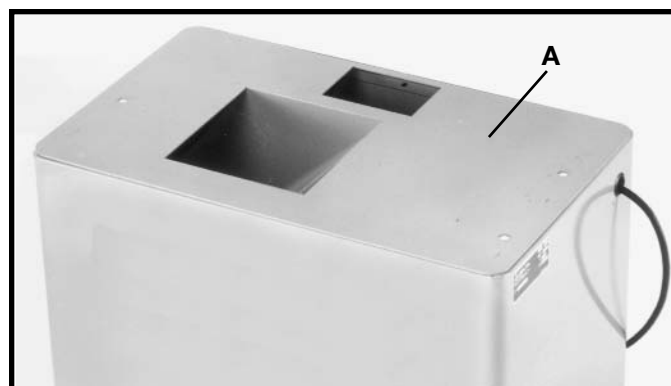

Fig. 4
Your Jointer stand (A) Fig. 4, is shipped with the motor and switch completely wired, and the motor mounted.